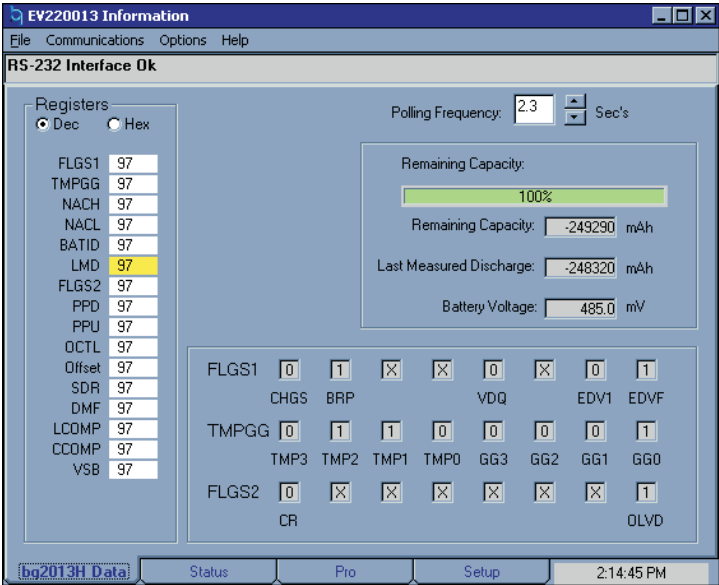

Figure 8. bq2013h Data Screen
- Q** – The EV2200 is communicating properly but the data registers are all showing the same value; see Figure 8. What is wrong?